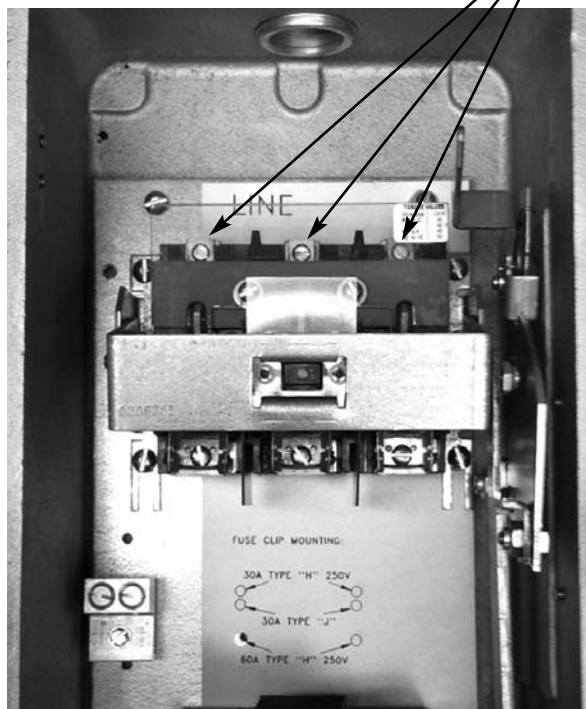

Figure 2. WSR Interior (Fusible Type Shown)
- Connect grounding conductor when used. Pull all phase conductors into enclosure and make connections to the line side pressure connector terminations following the wiring pattern established for your system. See Figure 2.